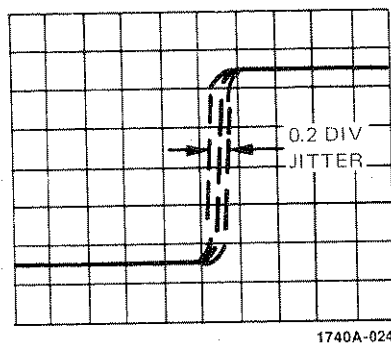

Figure 18. Pulse Jitter Measurement
6. Measure the horizontal displacement on the center horizontal graticule line as shown in figure 18. This displacement times the DLY'D TIME/DIV setting is the pulse jitter in time.
Example: Assume the DLY'D TIME/DIV setting is 0.1 mSEC and the horizontal displacement is 0.2 DIV (see figure 18).